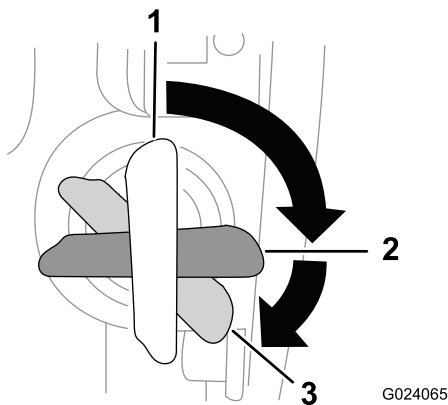

Figure 20
3. Turn the ignition switch to the Start position, and hold it there until the engine starts (Figure 20).